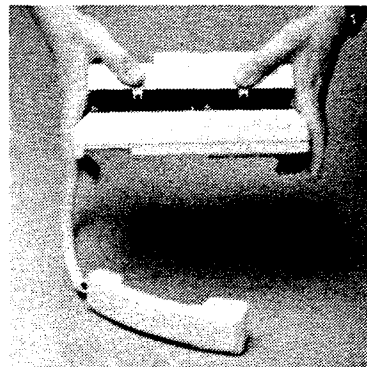

Figure 6.1 - Remove mount
1. Remove the bevelled wall-mounting base from the back of the telephone. Grip the base, and with your two thumbs, push on the top to pop out as in Figure 6.1.